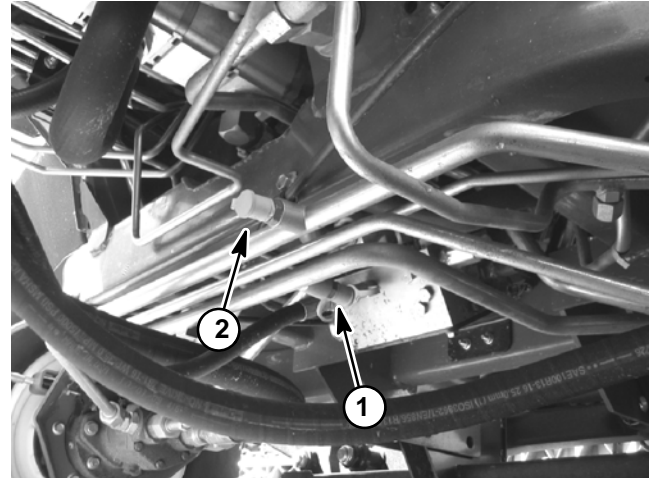

Figure 29
1. Make sure hydraulic oil is at normal operating temperature by operating the machine for approximately ten (10) minutes. Make sure the hydraulic tank is full.
3. Connect a 10,000 PSI (700 bar) pressure gauge to traction circuit test port for function to be checked (forward or reverse) (Fig. 29). Test ports are located on hydraulic lines toward the front of machine. **Forward traction port faces the front and reverse port faces rearward.**